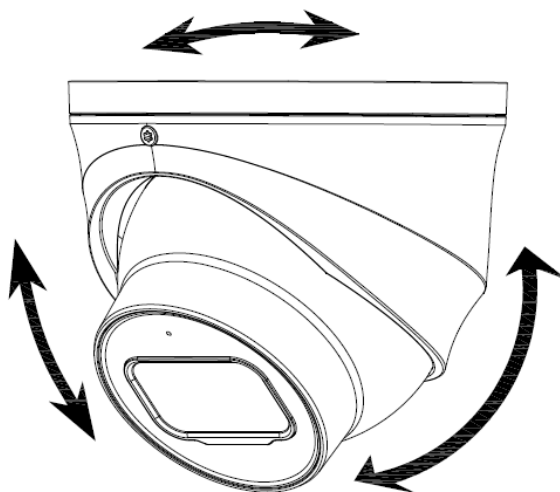

Figure 3-4
- For model B and model C, put the enclosure⑥ back on and adjust the locking screw⑨ to hold it, leave some spaces enough for you to adjust the device⑤. Aim the lens to the ideal angle and adjust the focus until you get clear image (see Figure 3-4) and fasten the locking screw⑨.